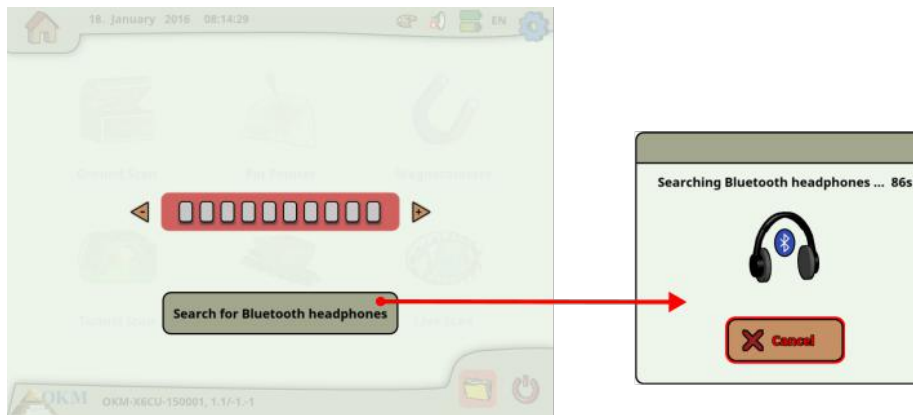

Figure 5.7: Pairing the Bluetooth headphones
4. Now the dialog from figure 5.7 appears with a countdown of 90 seconds in which the eXp 6000 control unit is searching for available Bluetooth headphones. Make sure that your Bluetooth headphones are still in pairing mode.